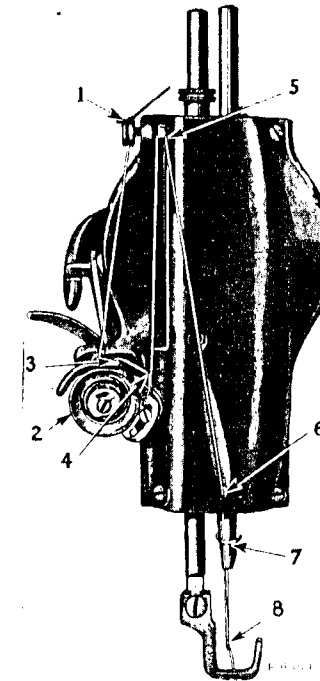

FIG. 10. THREADING THE NEEDLE
(1, Fig. 10), down and under from left to right between the tension discs (2), up back of the tension thread guard (3), down into the loop of the thread take-up spring (4), up and from left to right through the hole in the end of the thread take-up lever (5, Fig. 10), down through the hole (6) in the lower end of the face plate, into the thread guide (7) and away from you through the eye of the needle (8). Draw about three inches of thread through the eye of the needle with which to begin sewing.